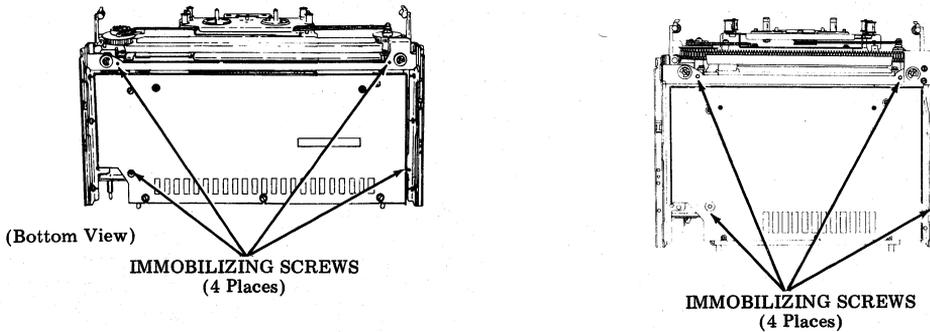

Fig. 23—Immobilizing Screws
6.05 Loosen four immobilizing screws a minimum of four turns until base rides freely on the shock mounts (Fig. 23).